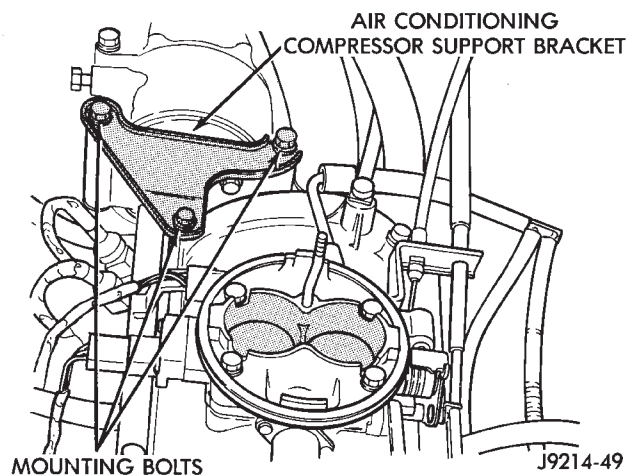

Fig. 30 A/C Compressor Support Bracket—Typical
- (1) Remove negative battery cable at battery.
- (2) Remove air cleaner.
- (3) Perform fuel pressure release procedure.
- (4) Remove throttle body from intake manifold. Refer to Throttle Body removal in this group.
- (5) If equipped with air conditioning, remove A-shaped A/C compressor-to-intake manifold support bracket (three bolts) (Fig. 30).